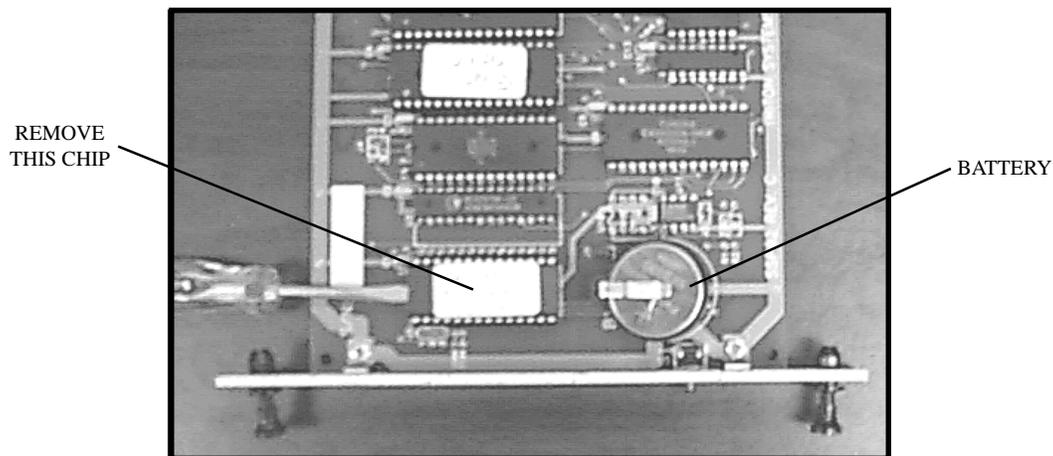

FIGURE 2-1
4. Place the memory card on a flat surface (preferably an ESD mat) and position the card so that the front of it card is facing you (See Figure 2-1).
5. Remove the I.C. chip that is immediately to the left of the circular battery (See Figure 2-1). The use of a chip puller to perform this step is recommended; however, a small flat-blade screwdriver can be used. Place the tip of the screwdriver between the chip and its socket, and twist the tip slightly to begin lifting the chip from the socket. Move the tip of the screwdriver to the opposite end of the chip and repeat. By alternating sides and lifting the chip a small amount each time, you will eventually release the chip from its socket. At this point, carefully remove the chip from the memory card.